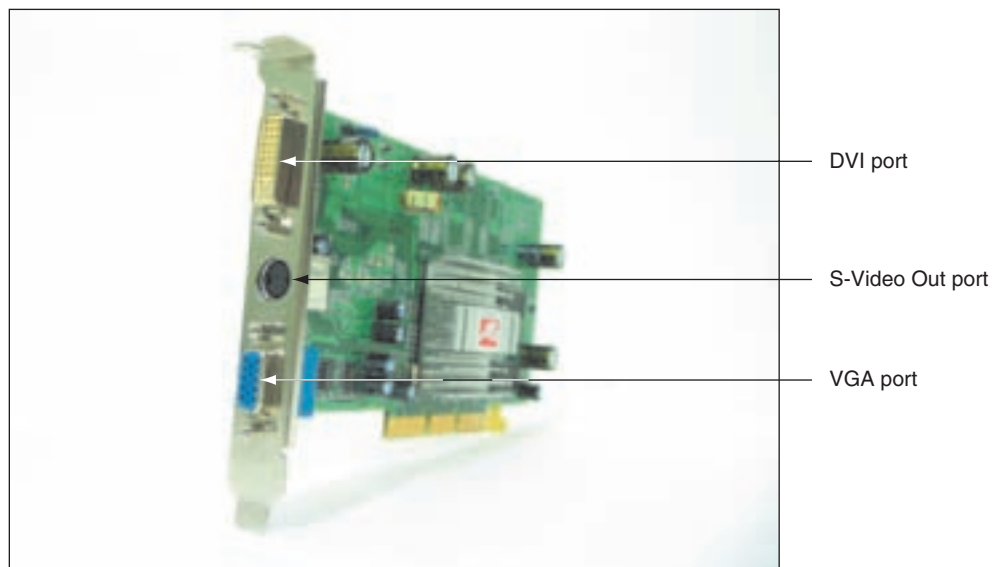

Figure 9-29 This ATI Radeon video card has three ports for video out: DVI, S-Video, and the regular VGA port
- ▲ **15-pin VGA port.** This is the standard analog video method of passing three separate signals for red, green, and blue (RGB), which older video cards and CRT monitors use. The video card in Figure 9-29 has this 15-pin VGA port.
- Composite out port.** Using this port, the red, green, and blue (RGB) are mixed together in the same signal. This is the method used by television, and can be used by a video card that is designed to send output to a TV. A composite out port is round and is the same size as the S-Video Out port shown in Figure 9-29, but has only a single pin in the center of the port. Composite video does not produce as sharp an image as RGB video or S-Video.